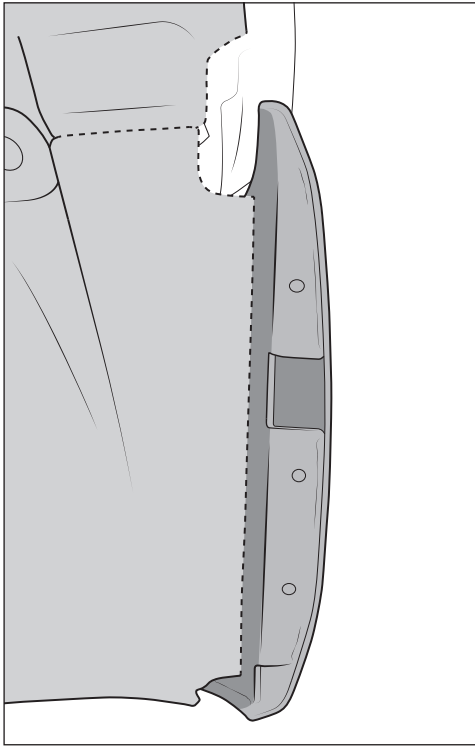

Figure 34
- Trim the front edge of both inner fender liners to provide approximately 1/2" of gap between the liner and the bumper corner (fig. 34).